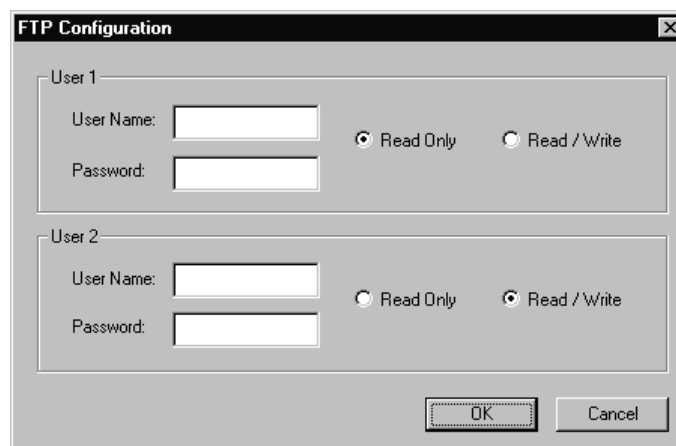

Figure 10.1 – FTP Configuration Dialog
3. Click on the **Config** button next to the **FTP (File Transfer)** checkbox to open the FTP Configuration dialog (Figure 10.1).